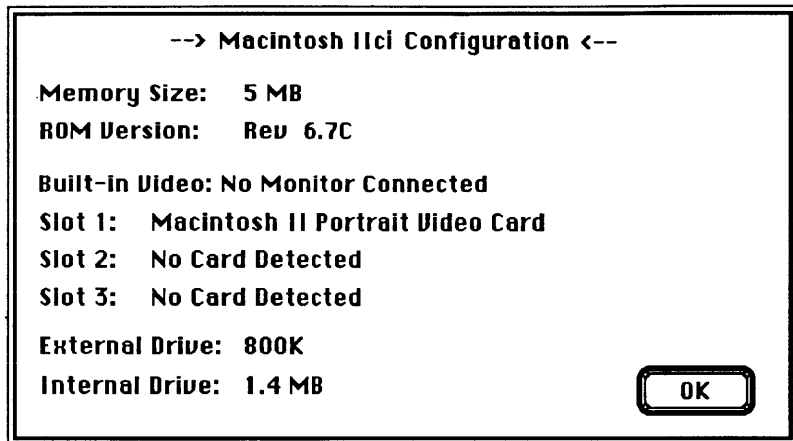

Figure 3-4 Configuration Window
2. **Configuration** – The following window (**Figure 3-4**) appears when you select **Configuration**: